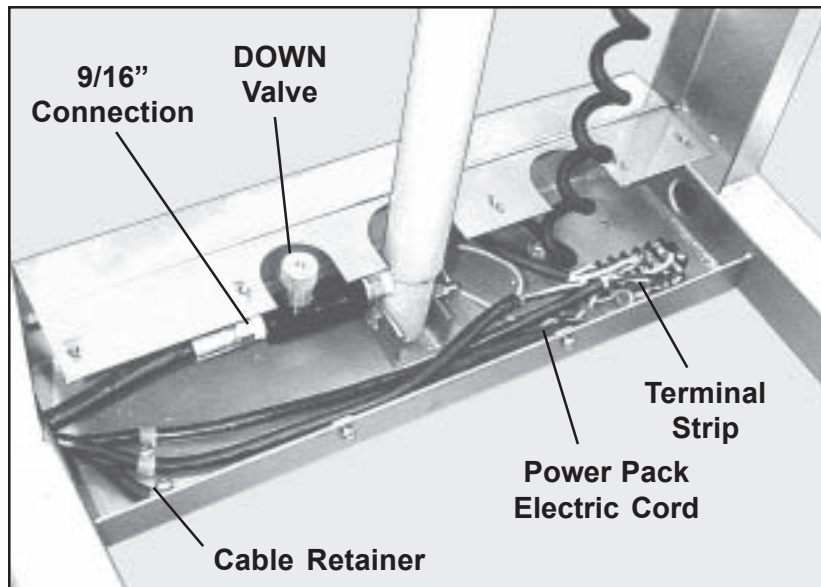

Figure 70. Hydraulic and Electrical Connections in Table Bottom Tray
1. With a Phillips screwdriver, remove the cable retainer and free the power pack electric cord (Figure 70).
7. Connect the new hydraulic hose to the **DOWN** valve with the 9/16-in. fitting (Figure 70).